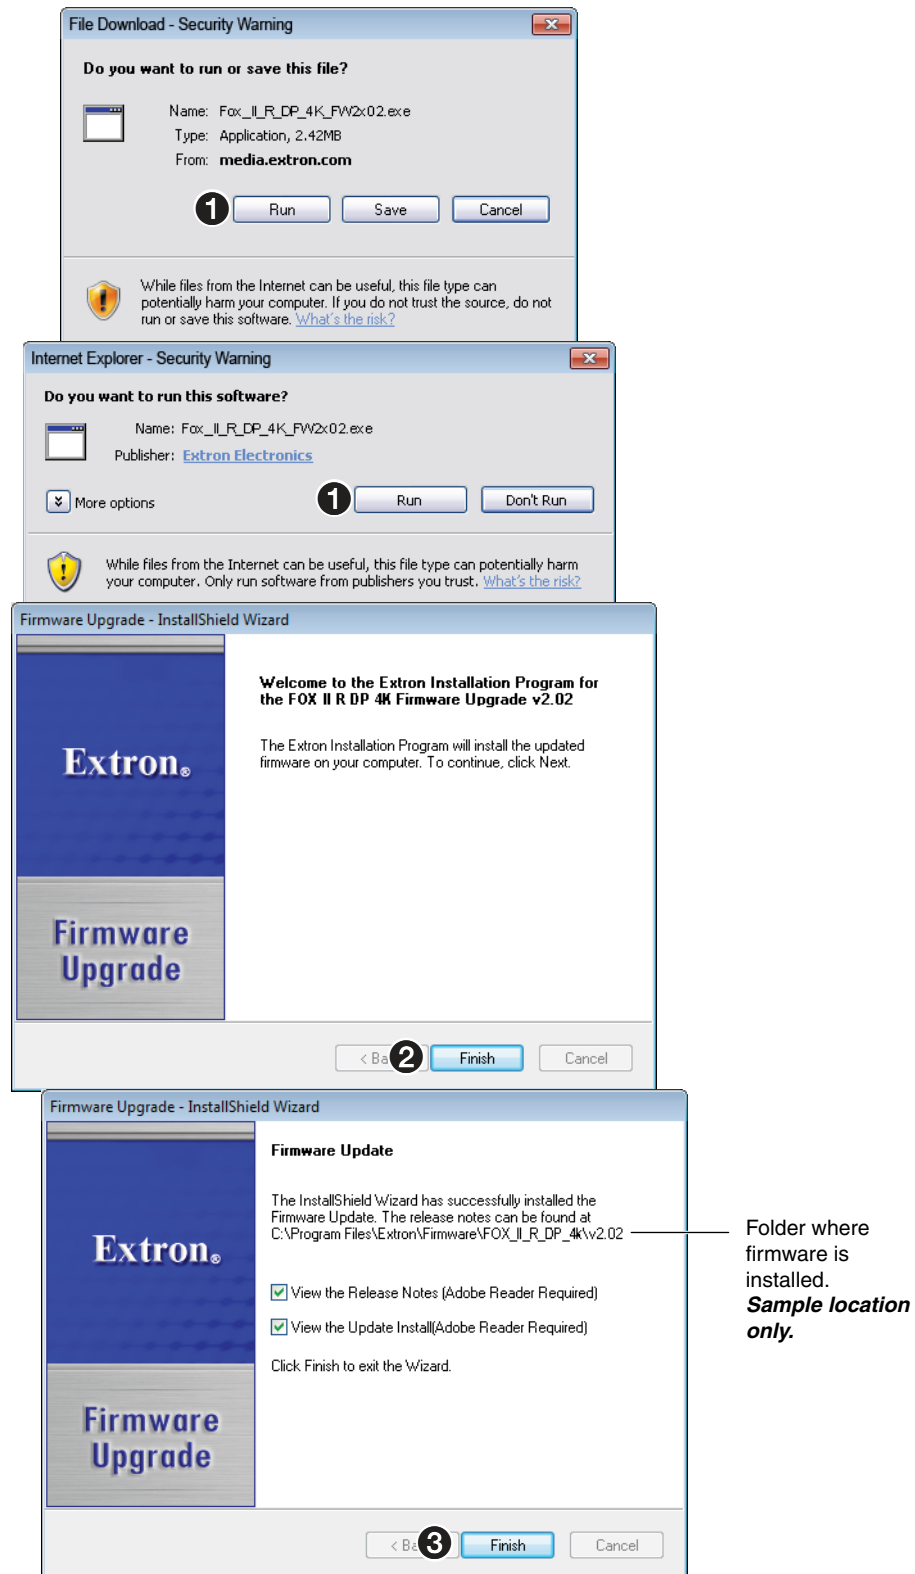

Figure 22. Downloading Firmware Upgrade Files
2. Click **Run** in the **File Download and Security Warning** dialog boxes, if applicable (see **figure 22**, ❶ on the next page). The PC downloads the firmware update from the Extron website and starts the Extron Installation Program to extract the firmware file.
3. Click **Finish** (❷). The program extracts the firmware files and places them in a folder identified in the InstallShield Wizard.